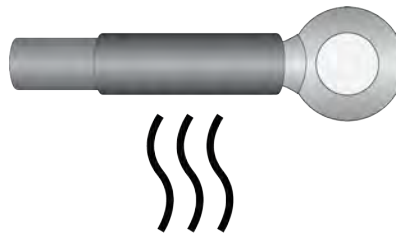

Figure 37. Heating the Heat-Shrink Tube
- Heat the heat-shrink tube to secure it on the wire and ring terminal lug. Refer to Figure 37.